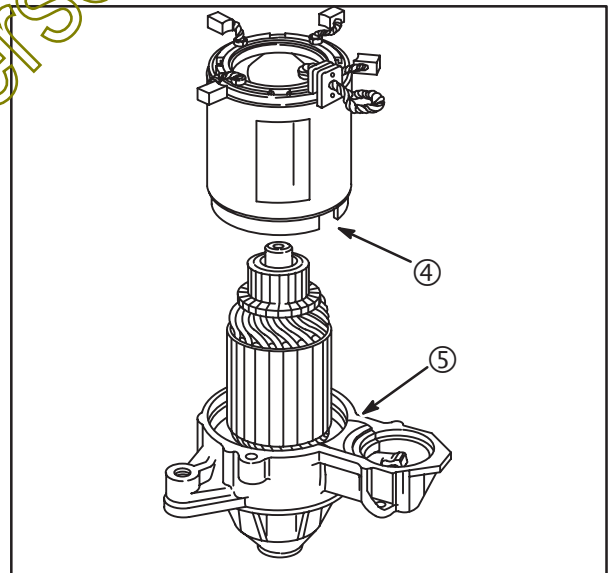

Fig. 43
2. Assemble starter housing to drive housing, engaging notch in housing with tab on drive lever support, **Fig. 43**.